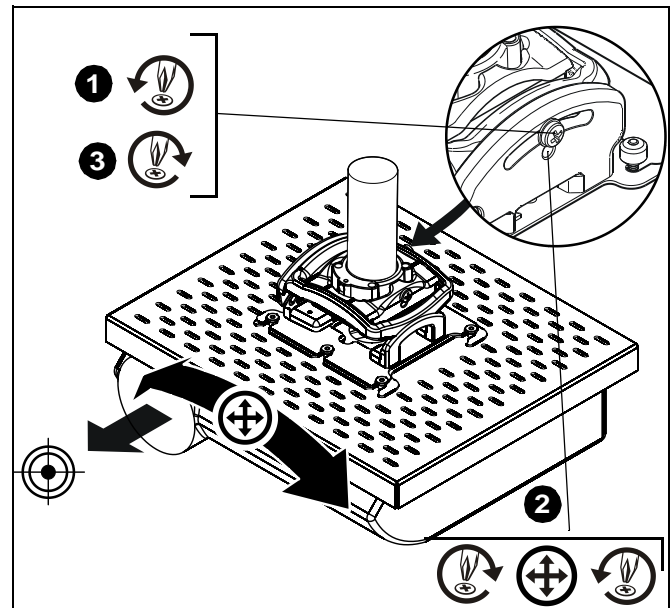

Figure 12
1. Loosen ROLL adjustment locking screw using a #2 Phillips screwdriver. (See Figure 12)